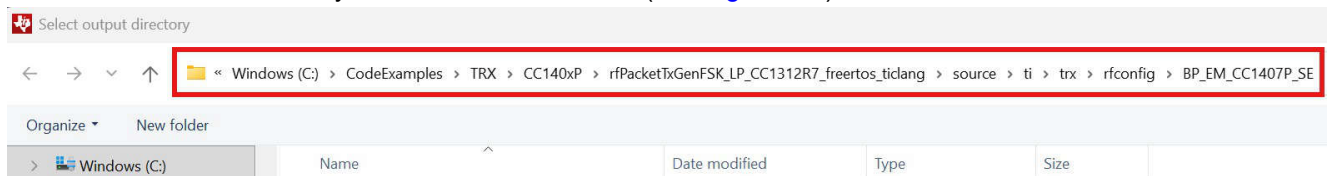

Figure 3-3. Output Directory
4. Select the folder where you want to store the files (see Figure 3-3).